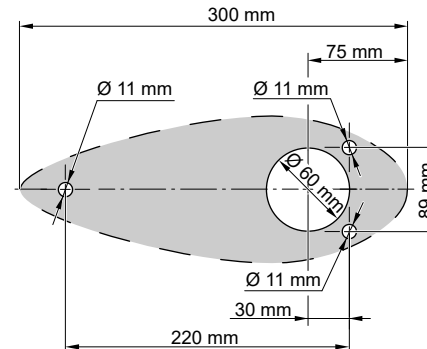

Fig. 37: Dimensions
1. Drill four holes in the boat's hull for installing the pod, **see "Fig. 37: Dimensions"**. If necessary, use the adjusted compensator block as a drilling template.
2. Push the compensator block (4) onto the mounting flange (5).